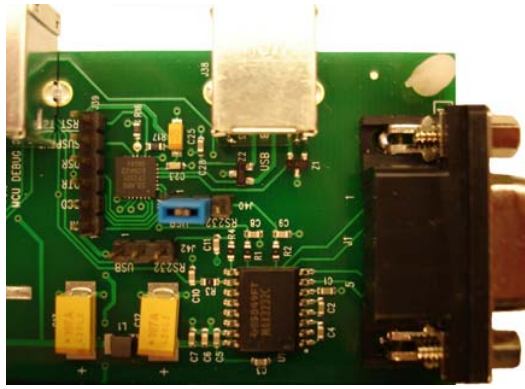

Figure 3-6. Jumper Set For USB Communications
- To use the USB interface with the test tool, jumper J40 1-2 should be installed as shown in Figure 3-6 below.